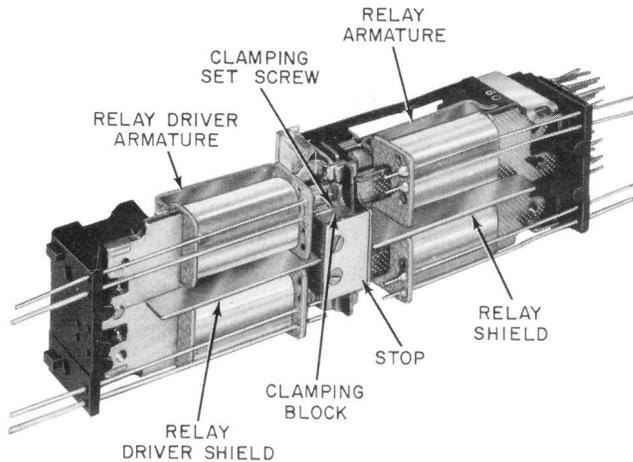

Fig. 4—Relay Driver Mounted on AK-Type Relay
3.06 The D-180296 relay driver provides for the operation of either or both armatures of AK-type relays. Figure 4 illustrates this driver mounted on the shield of an AK-type relay.